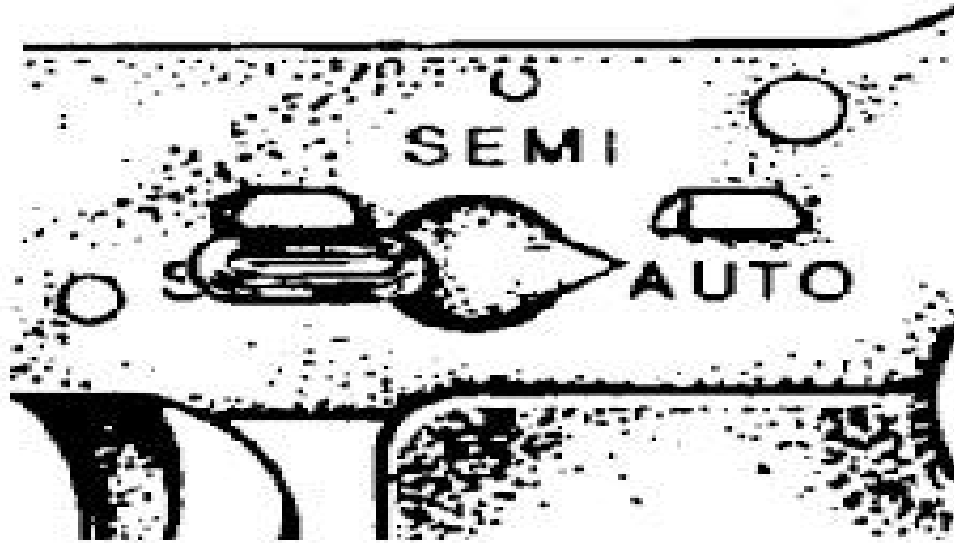

Figure E-45. Selector on AUTO
3. Check an M16A1 rifle with the selector lever in the AUTO position (figure E-45).